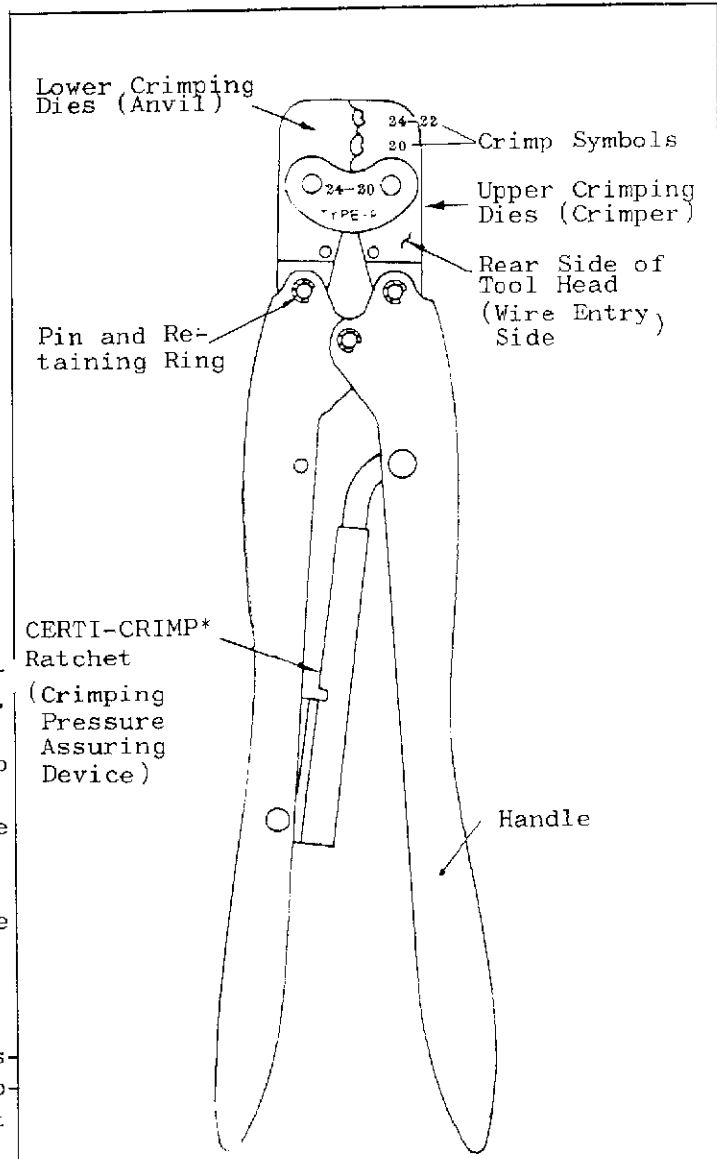

FIG. 1
- Inside the tool head, two sets of crimping dies are provided, where crimp symbols (24-22 or 20) are marked on to indicate proper selection of dies. (See Fig. 1.)